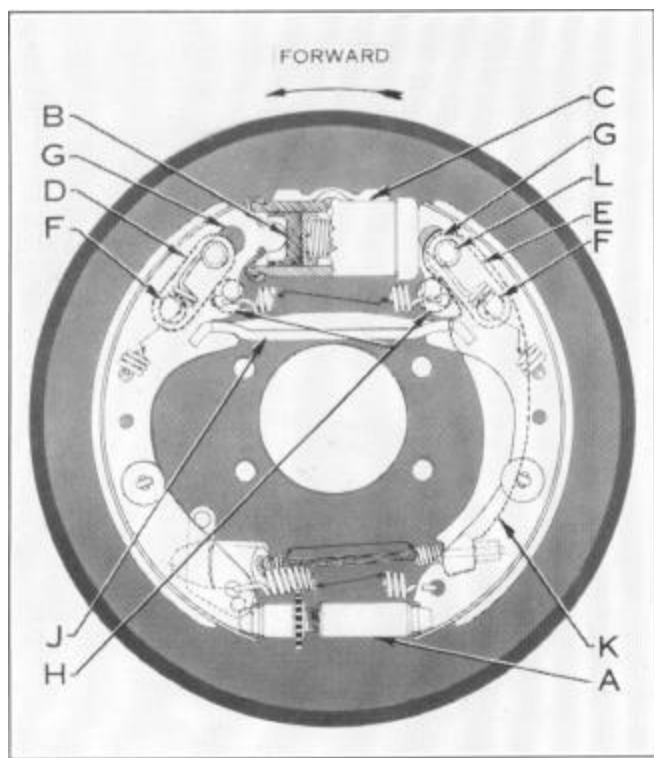

Figure 3
The floating anchors consist of short forged steel links (D) and (E), see Figure 3, near the top of each shoe. These links are pivoted on the backing plates at one end (F) and operate in short slots (G) in the shoe webs at the other end.